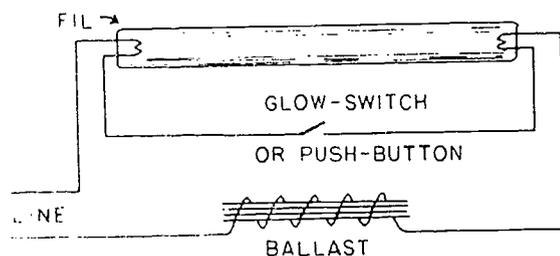
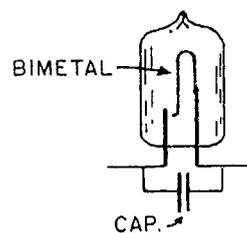

Fig. 1. Basic one-tube preheat circuit. The filaments are heated momentarily by a glow switch or a push button.
Fig. 2. Enlarged sketch of a glow-switch. Some (but not all) have a capacitor as shown, presumably to reduce arcing as the contacts open.
its purpose is to prevent the battery from discharging back through the generator when the engine is idling or stopped. It has *two* coils: a "voltage coil" (V in Fig. 1) and a "current coil" (C). Together they give a "latching" or "hold-down" effect. Coil V closes the relay when the generator voltage is high enough for normal charging (above 12.6). If charging takes place, as expected, the current in coil C is in the direction to add force to holding the relay closed, even if R2 lowers the voltage due to the battery being low. If for any reason the current flows in the wrong direction, the coil acts in opposition, and contacts open.
The *preheat* system is the most common. The basic circuit is shown in Fig. 1. The initial ionization to start the gaseous conduction is produced by electrons from filaments at either end of the tube which are heated momentarily. The interesting question is how the filaments are switched on automatically, for only as long as needed. The gadget for doing that is called, in the engineering labs, a *glow-switch*, and at the hardware store a *starter*. It is like the familiar small ( $\frac{1}{4}$ " or  $\frac{1}{2}$ " diameter) neon light, except that one of the electrodes inside is a bimetal strip. When gas conduction occurs, the bimetal gets hot, bends and makes contact with the other electrode (see Fig. 2). This puts the current through the filaments of the fluorescent tube, and of course it extinguishes the glow in the glow-switch. In the second or two it takes the bimetal to cool and re-open the contact, the filaments have come up to temperature. When the contacts open, the full voltage4 is across the fluorescent tube and, with the help of the electrons from the filaments, it starts. The glow-switch does not restart because, when the fluorescent tube is conducting, the voltage across it is less than the threshold of the glow switch.